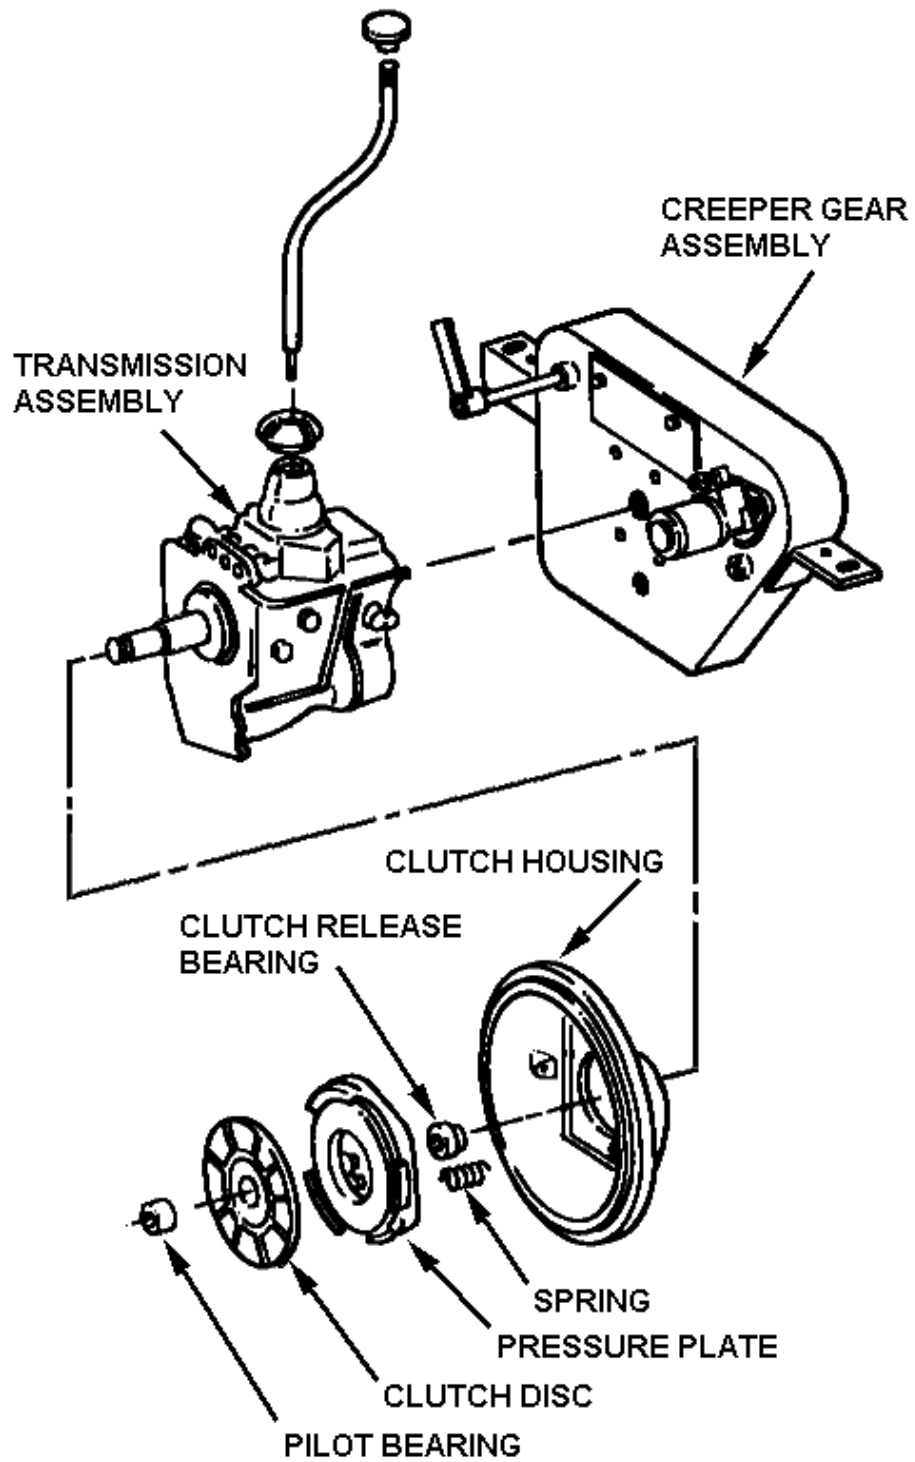

Figure 9-4
19. Carefully slide the transmission, creeper drive, and clutch-housing assembly back from the engine until the transmission input shaft clears the clutch disc and pressure plate. Refer to Figure 9-4.
20. Remove the clutch pressure plate and clutch disc from the flywheel. Refer to Figure 9-4.